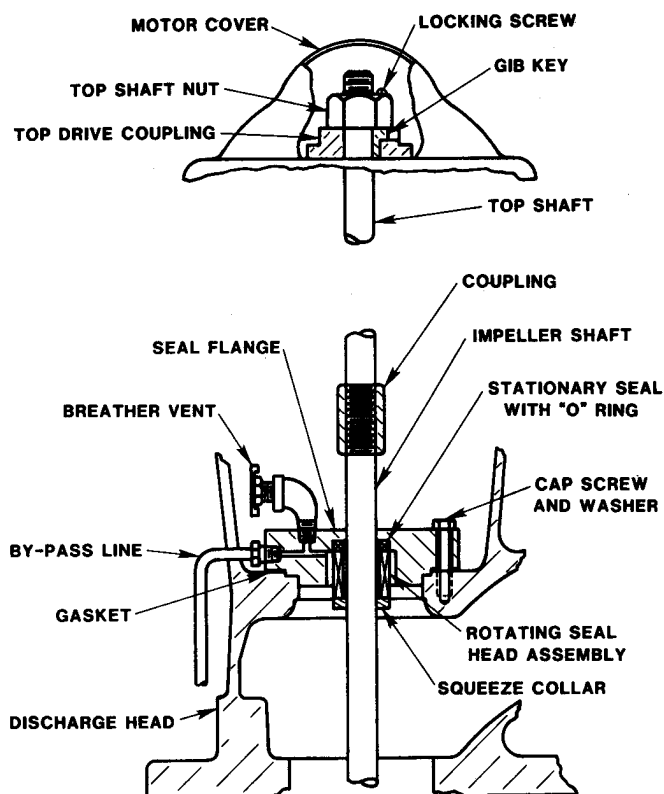

Figure 2. Type VTM (Mechanical Seal) Seal Assembly
5. Refer to Figure 2. Unscrew the motor drip cover cap screws and remove the cover.
9. Install the top drive coupling over the top shaft, the holes in the bottom of the coupling engaging the drive pins protruding from the rotor hub or ratchet coupling. Align the keyways in the shaft and in the coupling, and insert the gib key (see Fig. 2). Install the cap screws holding the top drive coupling to the rotor hub or ratchet coupling.